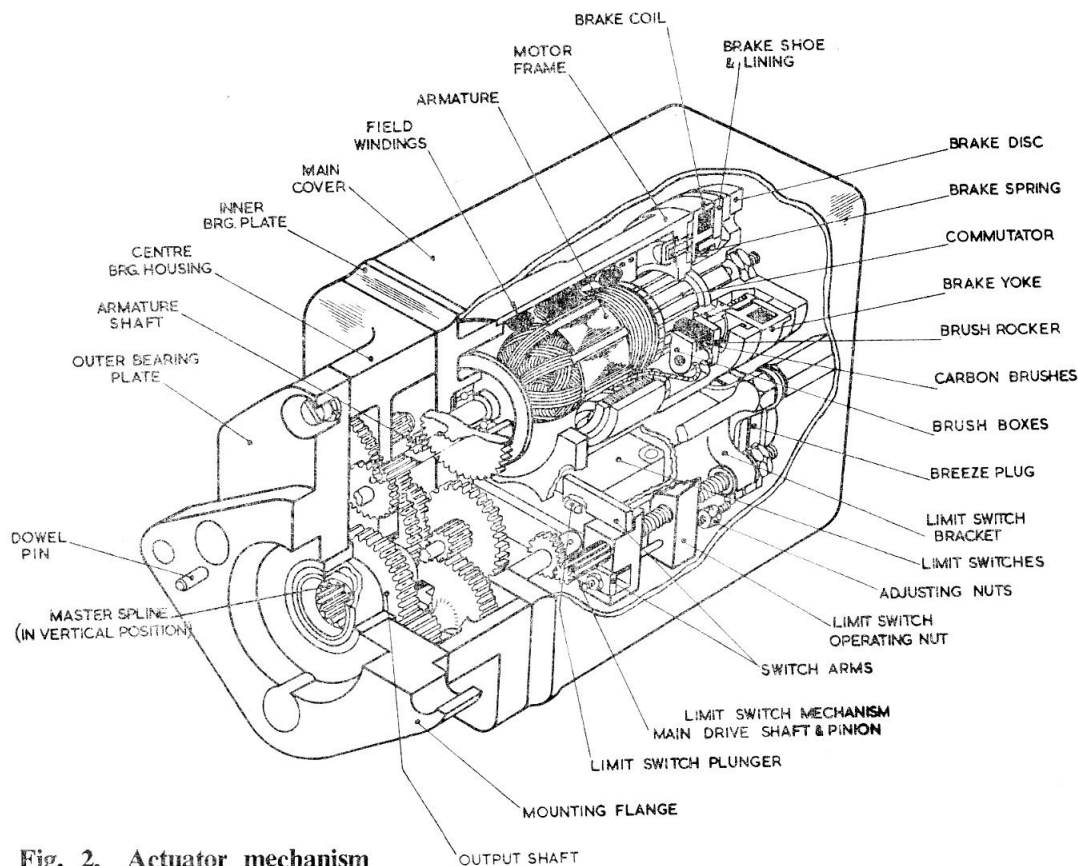

Fig. 2. Actuator mechanism
14. The master spline on the output shaft should be in the vertical position (*fig. 2*), and move 90 deg. anti-clockwise locking on the drive end of the actuator.